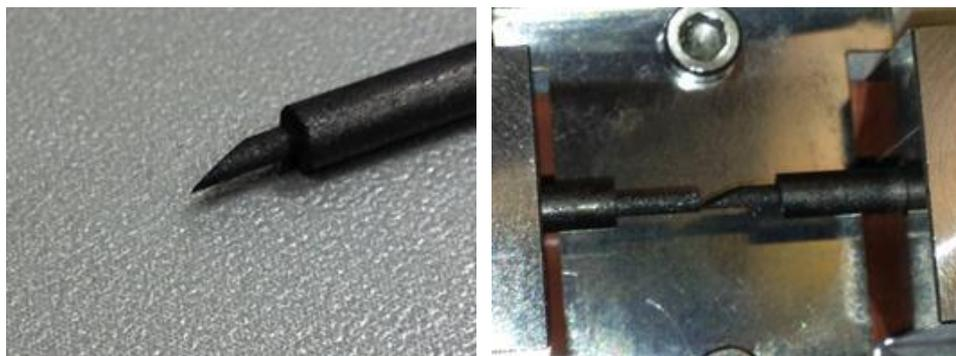

Figure 5-6. (l) A finished wedge-shaped rod; and (r) in position with plain rod
- Fit the wedge-shaped rod with its point closest to the plate of the insert (see Figure 5-6). Ensure that the sliding clamp of the insert is pulled back approximately 5mm and the point of the spigot is resting on the end of the plain spigot. It may be necessary to swap the side of the wedged spigot or to rotate the plain spigot.